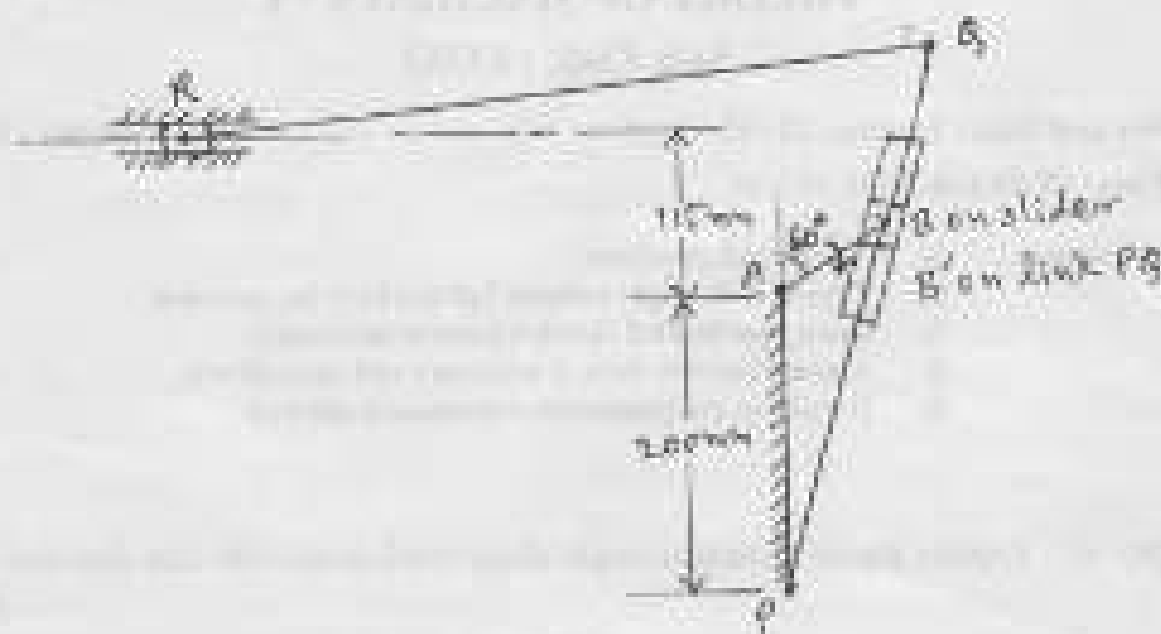

Fig. 2
- Q2) The driving Crank AB of the quick return mechanism as shown in fig. 2 revolves at uniform speed of 200 r.p.m. Find the velocity and acceleration of the tool-box R in the position shown when the crank makes an angle of 60° with the vertical line PA. The dimensions of the links are: $AB = 75 \text{ mm}$, $PQ = 175 \text{ mm}$, $QR = 500 \text{ mm}$, $PA = 200 \text{ mm}$. [18]